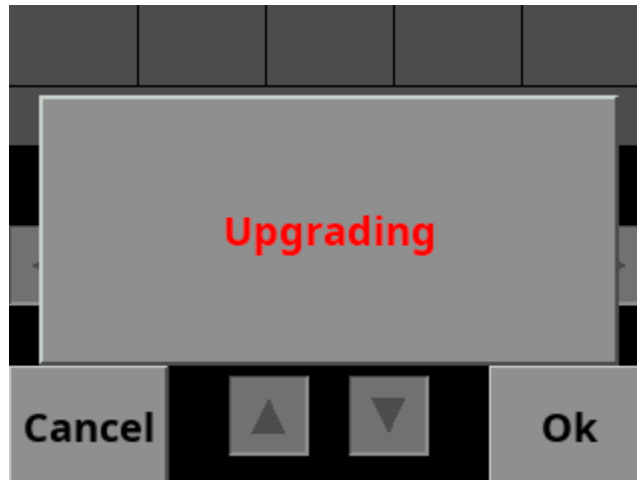

Figure 16: Firmware Upgrade in Process
- STEP 7: If the file listed is the correct file, press the Ok button to begin the upgrade process and Figure 16 will appear. Otherwise press Cancel and return to STEP 5: